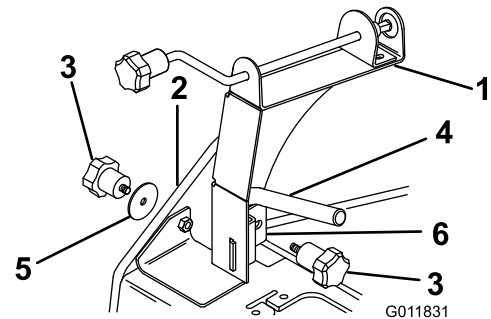

Figure 4
2. Locate the hole in the side plate of the frame (Figure 4) that is located just behind and to the left of the left handle.
3. Place the chute control bracket between the left handle and the side plate (Figure 4).
4. Secure the bracket to the frame with a knob and the large washer (Figure 4).
5. Insert the handle clamp into the slot in the chute control bracket, wrapping it around the handle, then secure it with a knob (Figure 4).